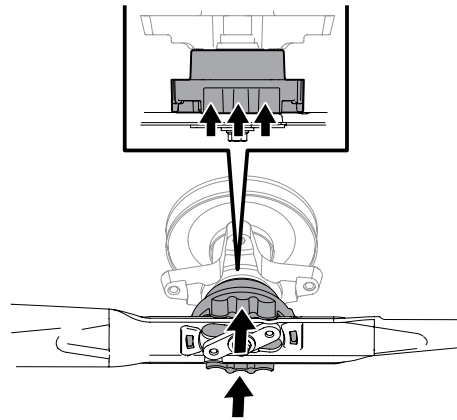

Figure 4-6
- Push upward on the blade collar and hold it. See Figure 4-6.